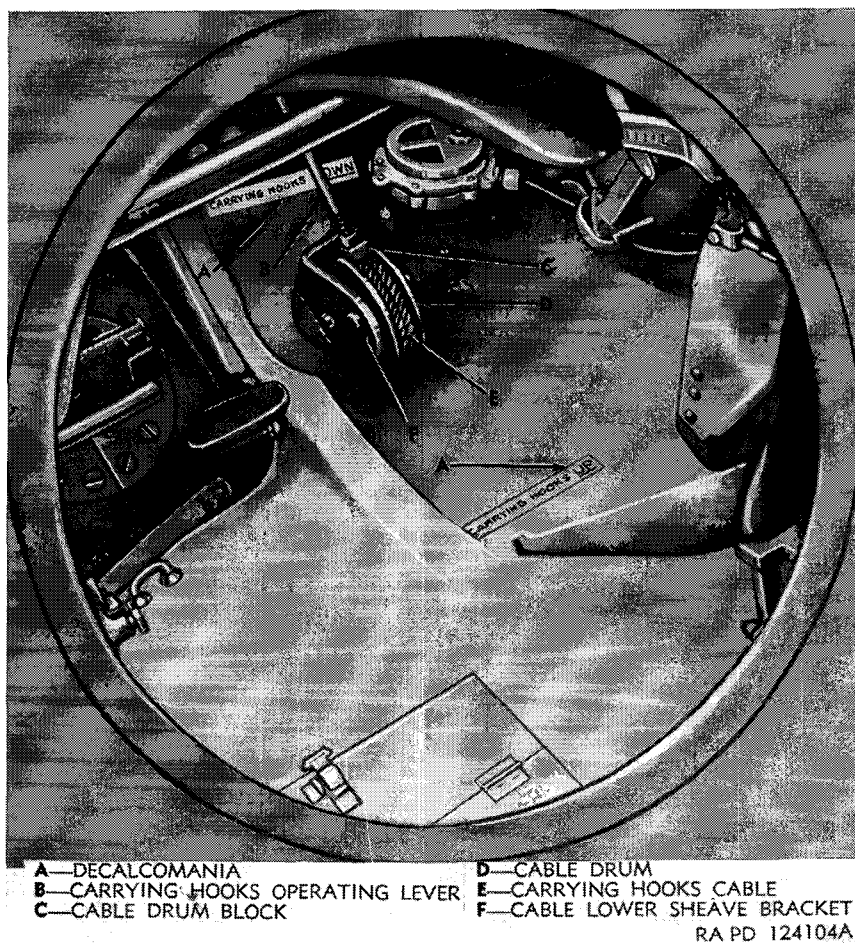

Figure 35. Carrying-hooks operating lever and cable-lower-sheave bracket.
k. Hold the cable-lower-sheave bracket (that contains the drum from which the operating lever has been removed) with the drum at the bottom, and insert the circular sleeve (that is at the top of the bracket) up into the hole just cut (fig. 35). Rotate the bracket until the axis of the drum is parallel to the axis of the carrying-hooks shaft, and the small bracket (attached to one side of the larger bracket) is at the right. Tack weld the bracket to the inside of the hull at several points.
l. Check to make certain that the bracket is properly positioned, then securely weld the bracket to the inside of the hull with a $\frac{1}{8}$ -inch weld all the way around (fig. 35).
Install the cable-drum block on the drum inside the vehicle and install the carrying-hooks operating lever (with nut on end of lever) in the drum by inserting the threaded end of the lever into the drum between the two strands of cable (fig. 35).
y. Install the "CARRYING HOOKS UP" decalcomania on the inside of the vehicle hull just in front of the most forward position to which the carrying-hooks operating lever can be moved (fig. 35), arranging it so that it is readily readable by the driver. Install the "CARRYING HOOKS DOWN" decalcomania on the inside of the vehicle hull at the most backward position to which the lever can be moved (fig. 35).
Note. When properly positioned, the flat surface of this support is on top, against the hull, and the projecting portion of the support is at the front. The front edge of this projecting portion is shaped to conform with the interior contour of the hull, at the angle between the flat top and sloping face of the hull (fig. 35).